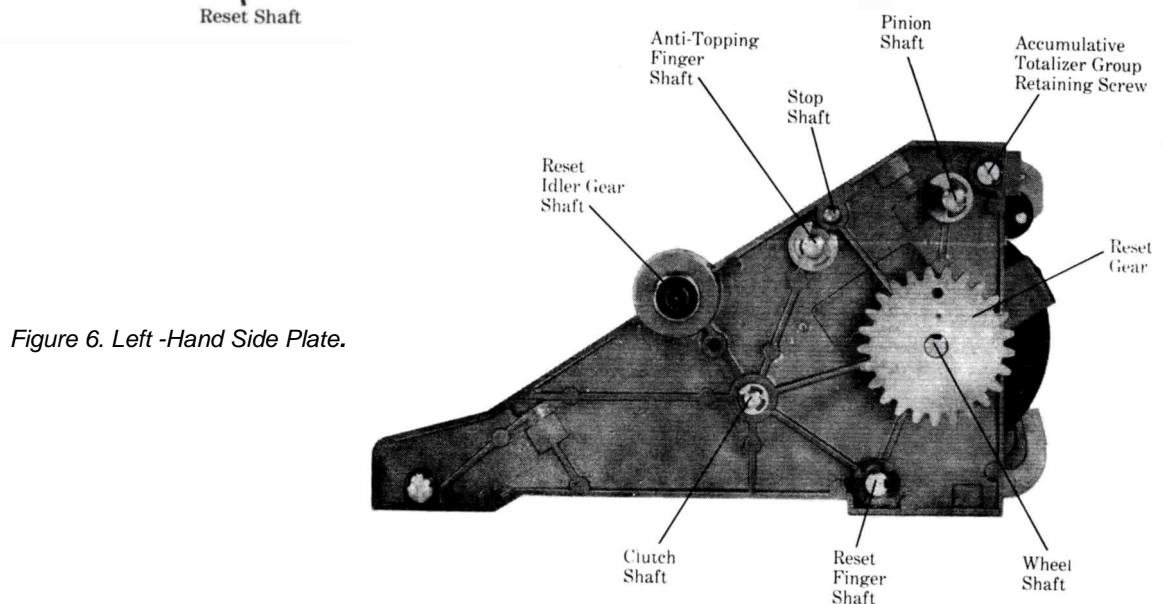

Figure 6. Left -Hand Side Plate.
Oil: All points indicated as "Oil" on Figure 6 should be lubricated with oil as described above. This includes all shafts, studs, and bosses on which a moving part bears.
Grease: Grease should be applied to all points indicated as "Grease" on Figure 6. This includes gears and the no-back ratchet and pinion.
- a. Remove retaining ring and washers securing the clutch shaft group to the left-hand Bide plate. See Figure 6.
- a. Remove retaining ring and washer securing the reset group to the left-hand Bide plate. See Figure 6.
- a. Remove the retaining ring and washers securing the anti-topping finger group shaft to the left-hand Bide plate. See Figure 6.
- a. Remove retaining ring securing pinion shaft to the left hand side plate. See Figure 6.
- Install the shaft into the proper hole in the left-hand side plate. See Figure 6.
- Install anti-topping finger group in proper hole in left-hand side plate (see Figure 6). Be sure all fingers and clutch lever are free of wheels and the pin on the reset lever engages the track on the cam.
- Insert stop shaft into proper hole in left-hand side plate. See Figure 6.
- Install shaft into left-hand side plate and secure with retaining ring and washers. See Figure 6.
- Install shaft in proper hole in left-hand side plate. Add washers and secure with retaining ring. See Figure 6.